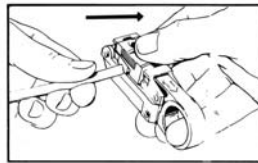

Figure 8
**G. Moves slide back one position.** Then pull cable out carefully while squeezing tool (Fig. 8). If there is too much resistance or strip is imperfect, go to step "H".